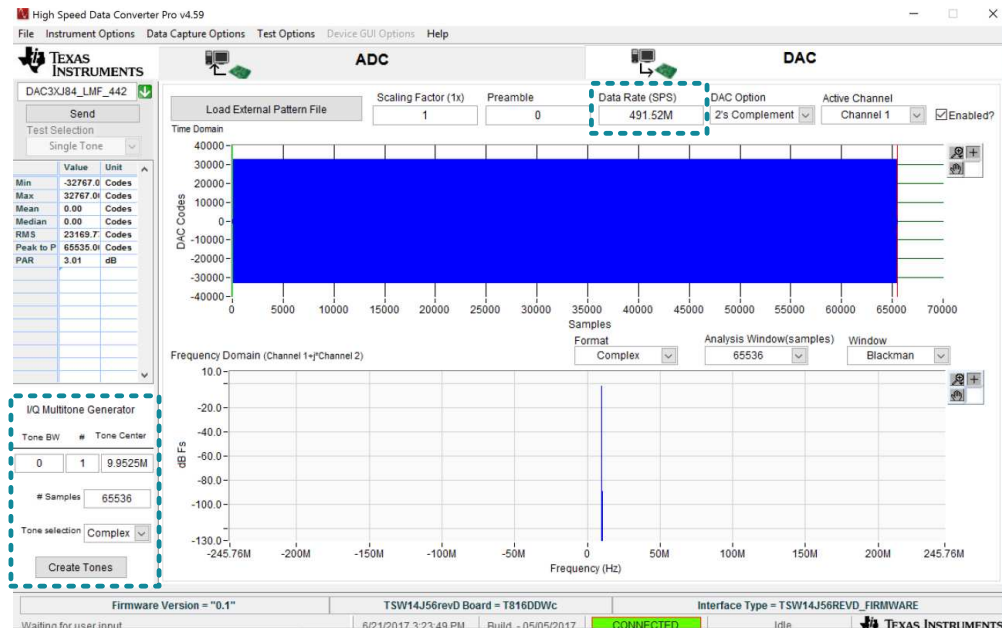

Figure 16. HSDC Pro Tone Creation
- Step 6. Change the data rate at the top of the HSDC pro application to the appropriate data rate for the previously selected configuration. The data rate is determined by taking the DAC clock frequency and dividing it by the interpolation rate. In the bottom left corner of the HSDC Pro application, set the tone number to 1 and tone center to 10-MHz (see Figure 16). In the *Tone selection* drop-down menu, select *Complex* and click the *Create Tones* button. Click the *Send*